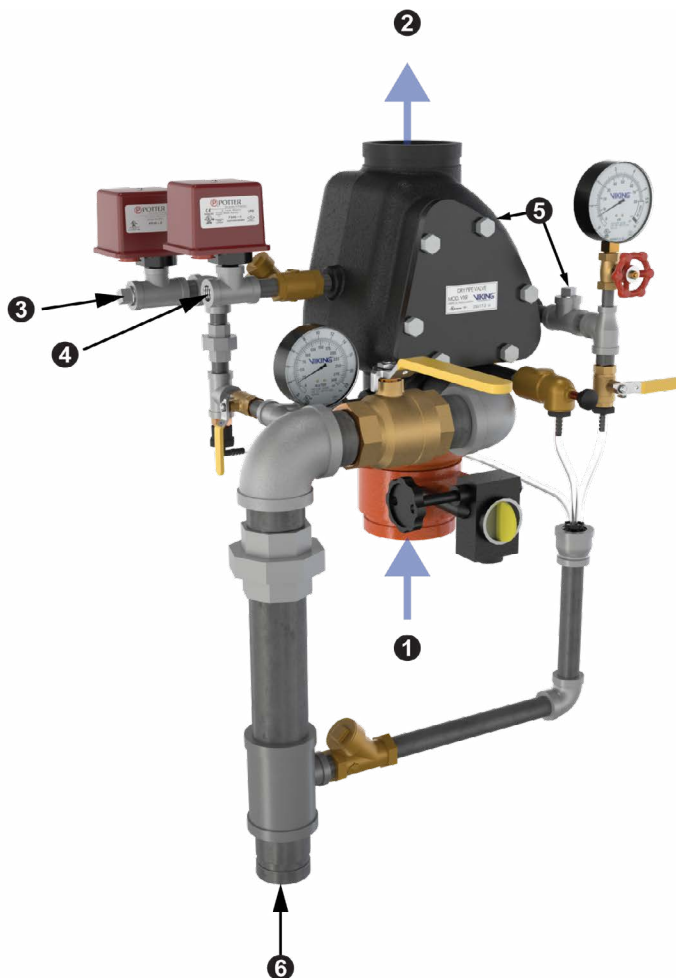

Figure 6: System Connection Points (4" PTR Shown)
- The Model VXR Dry Valve must be installed in the vertical position as shown in Figure 6.